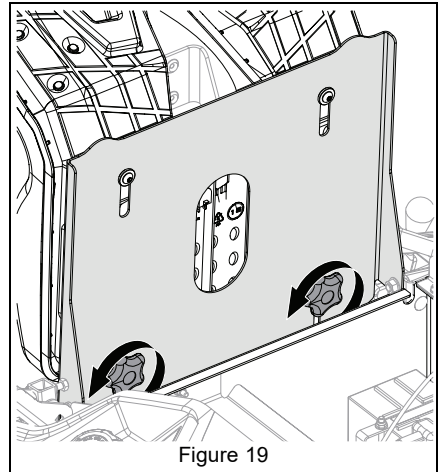

Figure 19
2. Loosen the two wing knobs located toward the front of the seat plate. See Figure 19.